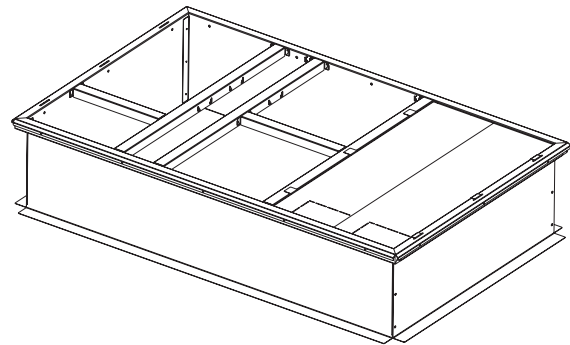
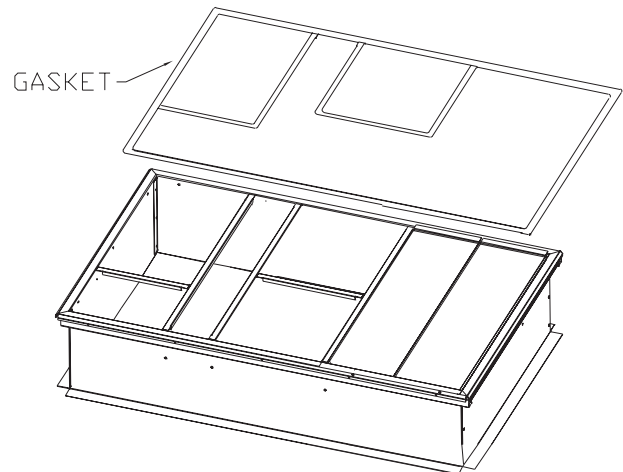
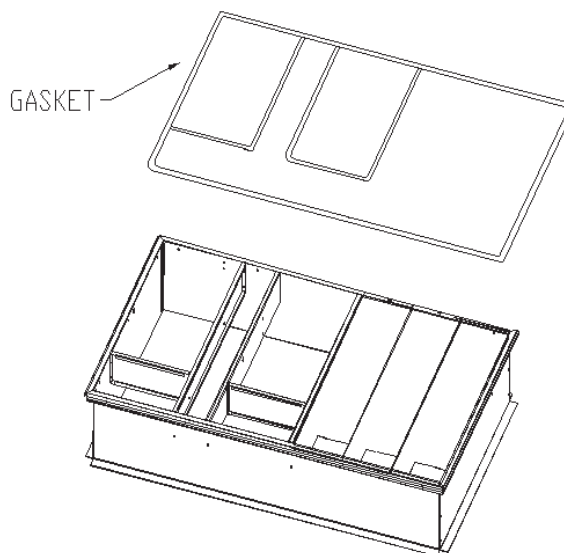

Figure 4. Step four
Figure 5. Step five
Figure 12. Step five
Note: All field fabricated panels used must be insulated. (See Figure 5 or Figure 12).
8. Install insulation and gasket. See Figure 4, p. 5 and Figure 5, p. 5.
8. Install gasket. See Figure 12, p. 8.